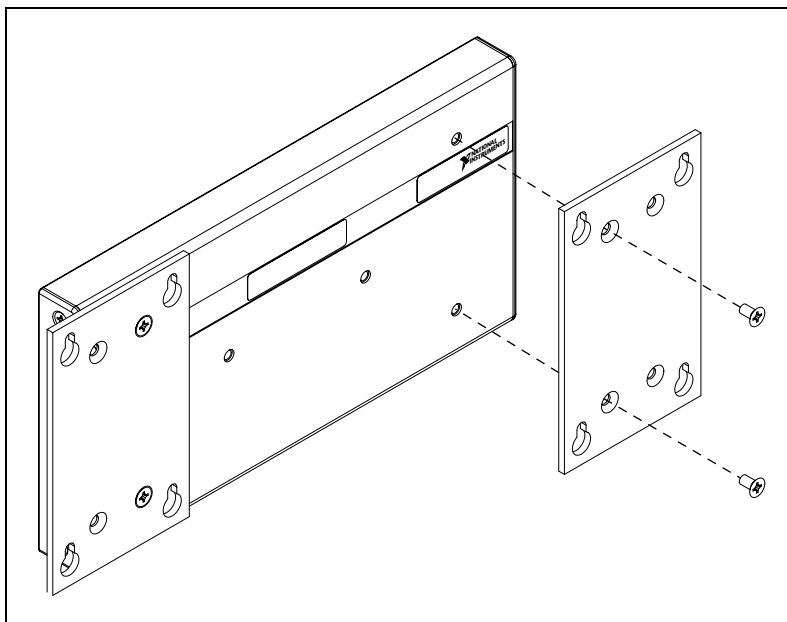

Figure 2-3. Fastening the Panel-Mount Plates to the cFP-BP-4 Backplane
1. Fasten the two plates of the panel-mount kit to the back of the cFP-BP-*x* using a number 2 Phillips screwdriver and the 8-32 × 5/16 in. countersink screws shipped with the kit. These screws have a nylon coating to prevent them from loosening. Refer to Figures 2-3 and 2-4.